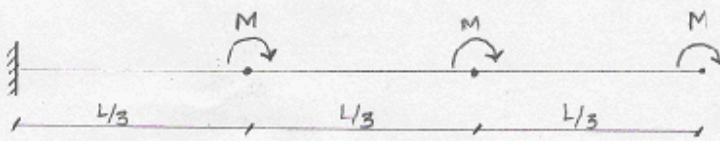

Fig. 4 (Q.4.B)
- (b)** Find the slope and deflection at B, C and D for the cantilever shown in **Fig.4** **07**